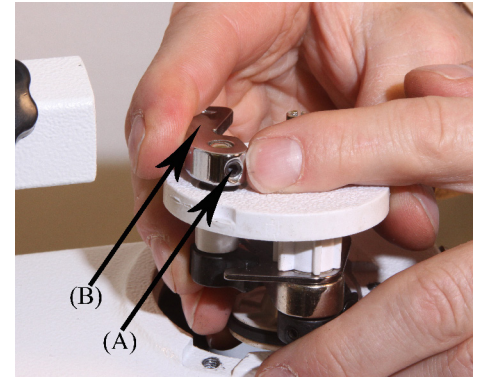

Figure 89
Step 1: Using your allen wrench loosen the set screw (A) holding the Bobbin winder Lever (B) in place. *See figure 89 and 90*